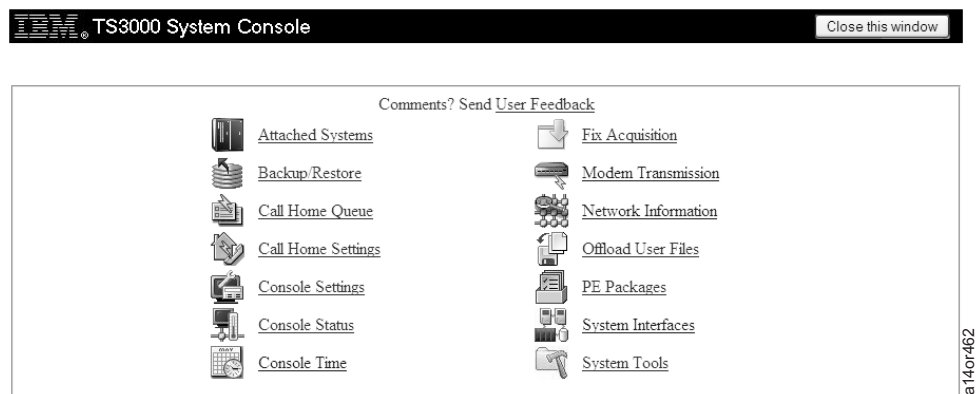

Figure 2-54. Console Configuration Utility Screen
3. Type **service** in the Username box, type **service** in the Password box, then click **OK** to start the Console Configuration application. You see the Console Configuration Utility screen shown in Figure 2-54.
- Type **service** in the Username field; type **service** in the Password field, then click **OK** to start the Console Configuration application. You will see the Console Configuration Utility screen as shown in Figure 2-54 on page 2-40
3. Type **service** in the Username field; type **service** in the Password field, then click **OK** to start the Console Configuration application. You will see the Console Configuration Utility screen as shown in Figure 2-54 on page 2-40